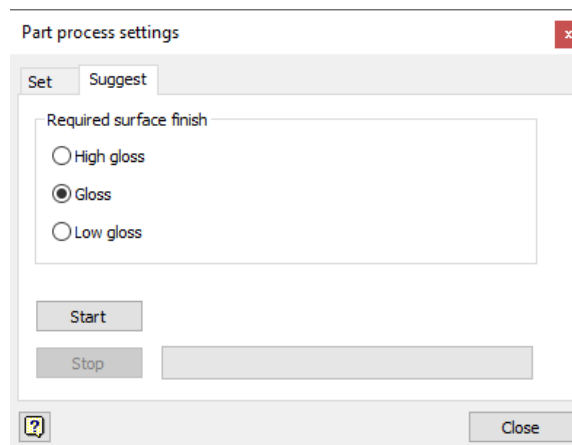

Figure 19-69 The Mold process settings dialog box with the Suggest tab
2. Choose the **Suggest** tab from the dialog box; the **Required surface finish** area is displayed, as shown in Figure 19-69.